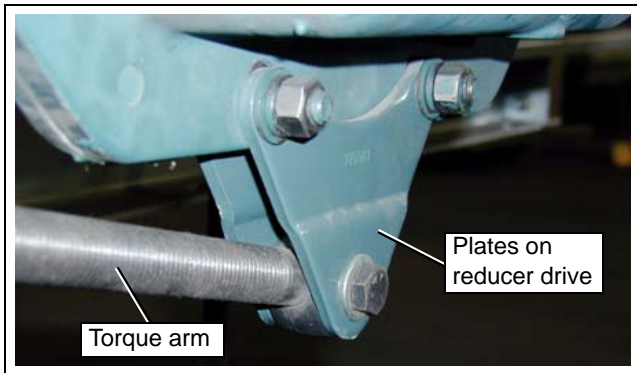
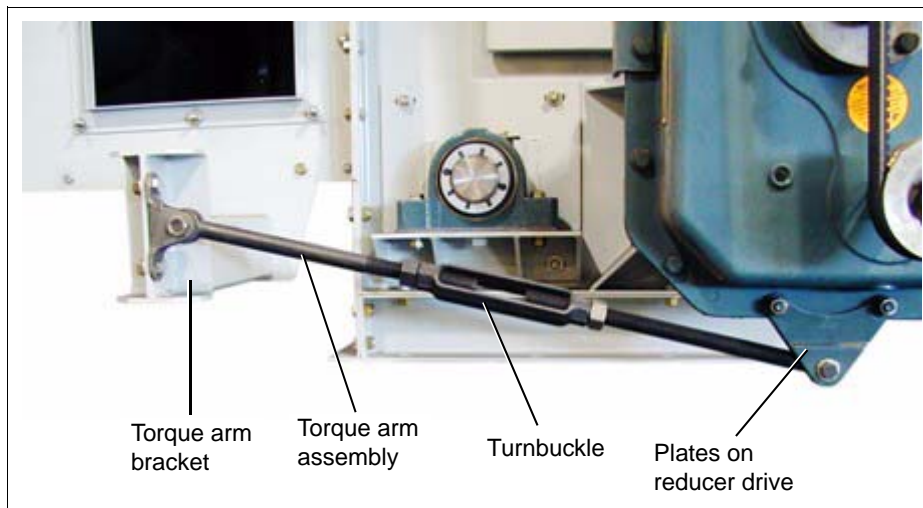
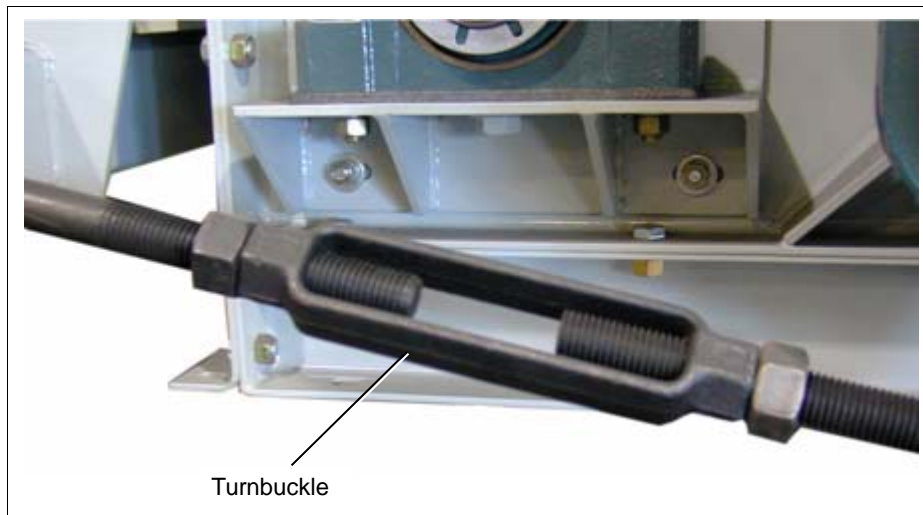

Figure 6N
Figure 6P
Figure 6Q
Install the torque arm turnbuckle between the two (2) plates that are located on the bottom of the reducer drive. (See Figure 6P on Page 22.) Secure using bolt with washer and lock nuts. (See Figure 6N on Page 22.) Attach the other end to the torque arm bracket on the conveyor using two (2) bolts, washers, and lock nuts. Tighten the torque arm by turning the turnbuckle. (See Figure 6Q on Page 22.) Adjust the position of the reducer.
The torque arm bracket is mounted under the first intermediate section. Locate bracket by matching an existing set of holes in the intermediate side that allows the turnbuckle assembly to be as short as possible with the reducer in a vertical position. (See Figure 6P on Page 22.)